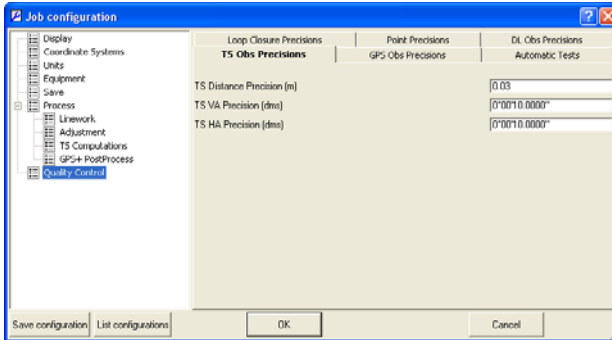

Figure 2-33. Job Configuration – TS Obs Precisions
- The *TS Obs Precisions* tab sets precision for a distance and horizontal/vertical angle of TS observations (Figure 2-33 on page 2-23). If the values of the distance/horizontal/vertical residuals from a net adjustment—with Rejection Criterion-By Control—are worse than the values set in this tab, the observations are highlighted in red on the *TS Obs* tab, Map view,